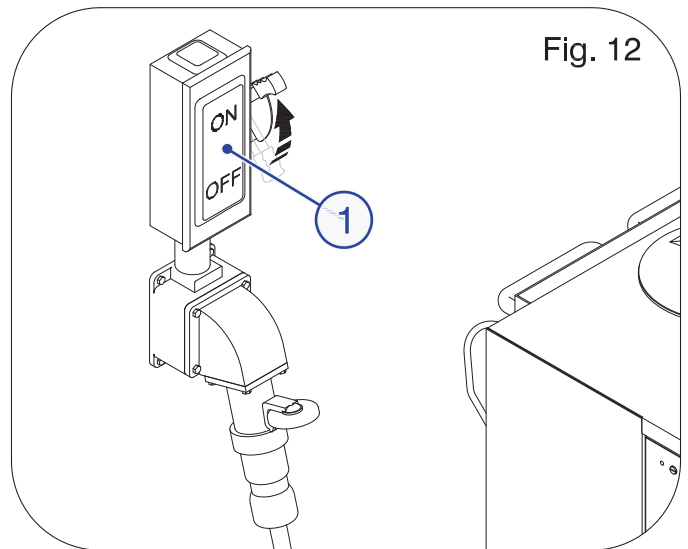

Fig. 12
- ☞ Place the Main Disconnect Switch (1-Fig. 12) in the **ON** position.